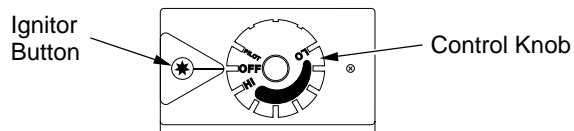

Figure 35 - Control Knob In The OFF Position
4. Wait five (5) minutes to clear out any gas. Then smell for gas, including near the floor. If you smell gas, **STOP!** Follow "B" in the safety information in column 1. If you don't smell gas, go to the next step.
5. Turn control knob counterclockwise to the PILOT position. Press in control knob for five (5) seconds (see Figure 35).